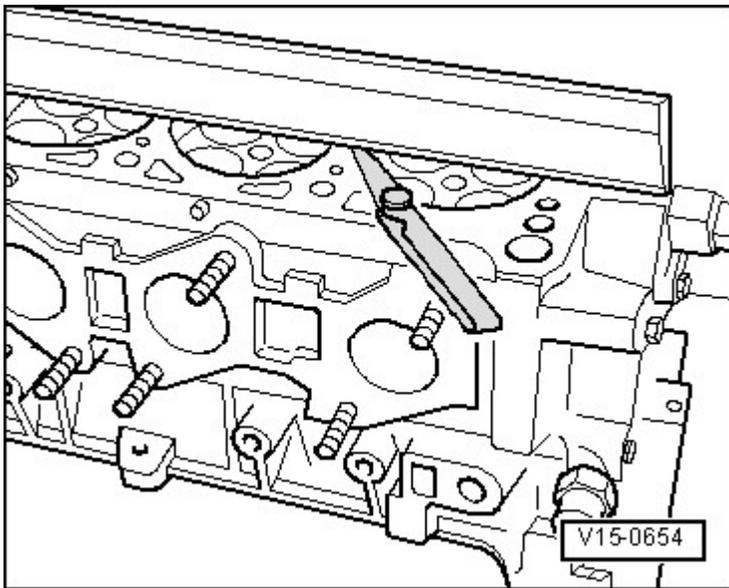

Fig. 6: Checking Cylinder Head For Distortion
- Check for distortion **Fig. 6**